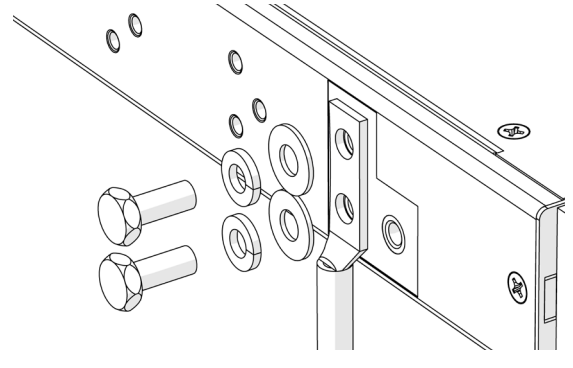

Figure 11. Chassis ground
Step 1. Secure the ground cable to the chassis by tightening 1/4 in. hardware (see Figure 11).